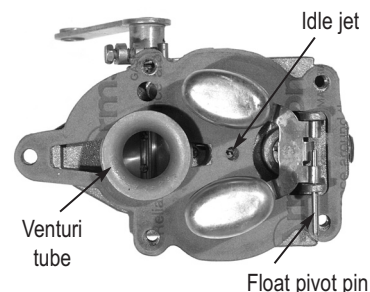

Fig. 2
7. Remove the float assembly from the upper housing by removing its pivot pin. If the gasket is still intact, it can be removed at this time. See Fig 2.
9. Remove the 1/2" hex head plug (the main passage plug) from the bottom of the lower housing (See Fig 2) and remove the brass main jet directly in front of the main passage plug. Be careful not to lose the small round main jet gasket. This gasket sometimes stays in the lower housing and other times comes out with the main jet.